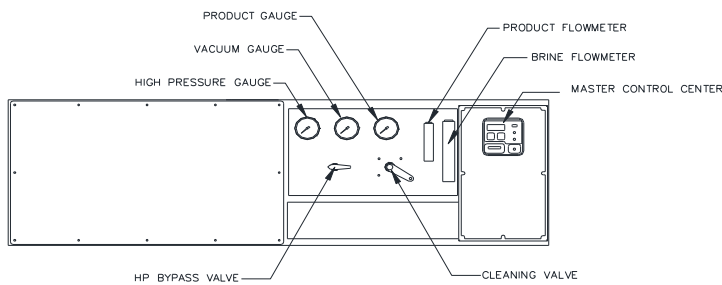

Figure 4.0: Pure Water FRAME - Instrument Detail.
Step 2: Refer to instrument details in Figures 4.0. Turn High Pressure Bypass Valve (Black Valve) to **CLEANING POSITION**. This procedure allows release of the high pressure air trapped within the system. Verify the Cleaning Valve (Gray Valve) is positioned to **NORMAL** discharge.